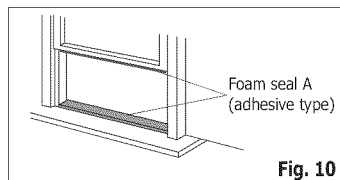

Fig. 10
1. Cut the foam seals(adhesive type) to the proper lengths and attach them to the window and stool. (Fig. 10)